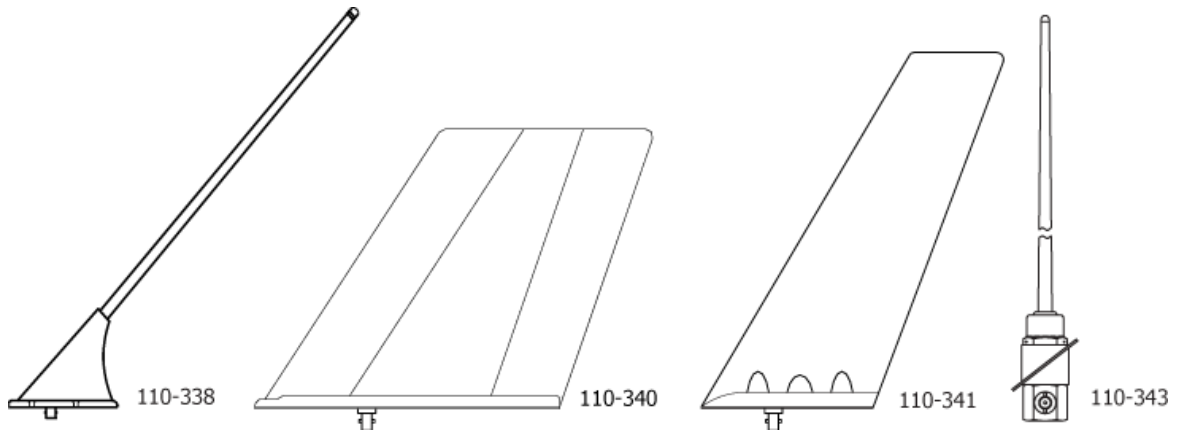

Figure 6 Antennas
- 6) Selection of the proper antenna is dependent upon end use, aircraft configuration and speed, and other factors. See Figure 6.